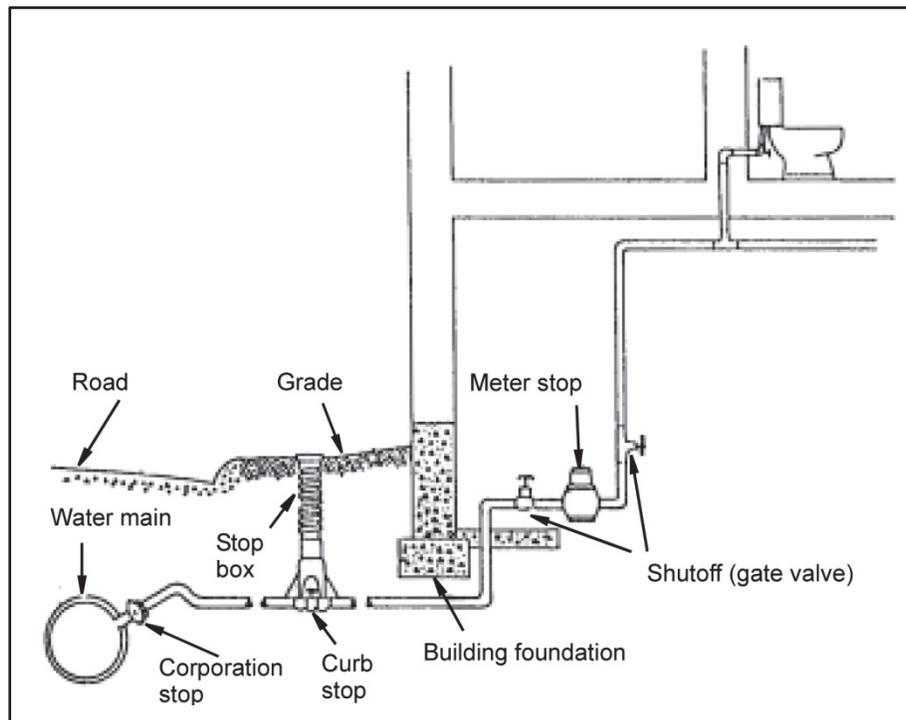

Figure 1-3. Curb and meter stops
- Step 14.** Remove the cap and drill tool. Place a corporation stop (figure 1-3) in the boring bar, ensuring that the stop is closed.
1-35. Curb and meter stops control the water entering the building. Figure 1-3 shows this installation.